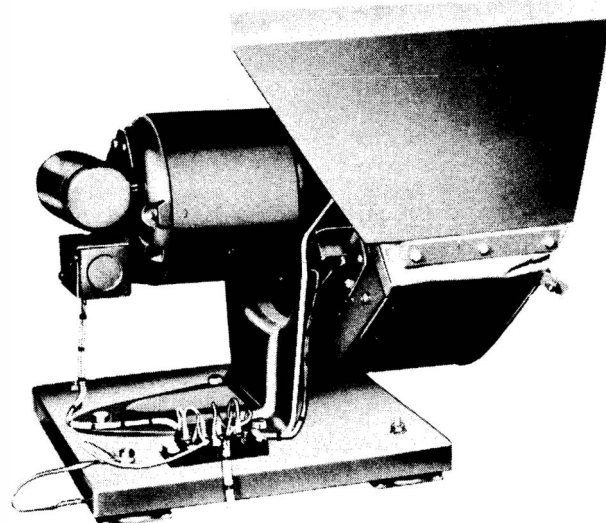

Figure 1-12. Blower Assembly
(10) CABINET ACCESSORIES.—Cabinet accessories include all parts that are attached to the transmitter frame, such as meters and interlock switches. Also part of the cabinet accessories is the Blower Assembly (see figure 1-12), located in the bottom section of the right-hand cabinet, directly under the Power Control Assembly.